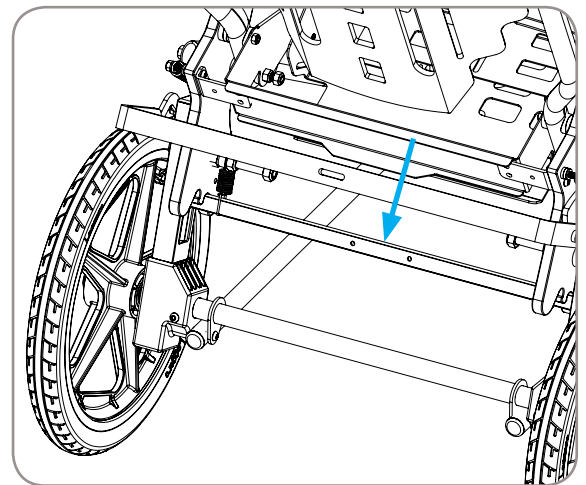

Figure 10
3. Using foot, push downward on hip angle lock bar. Reference Figure 10.